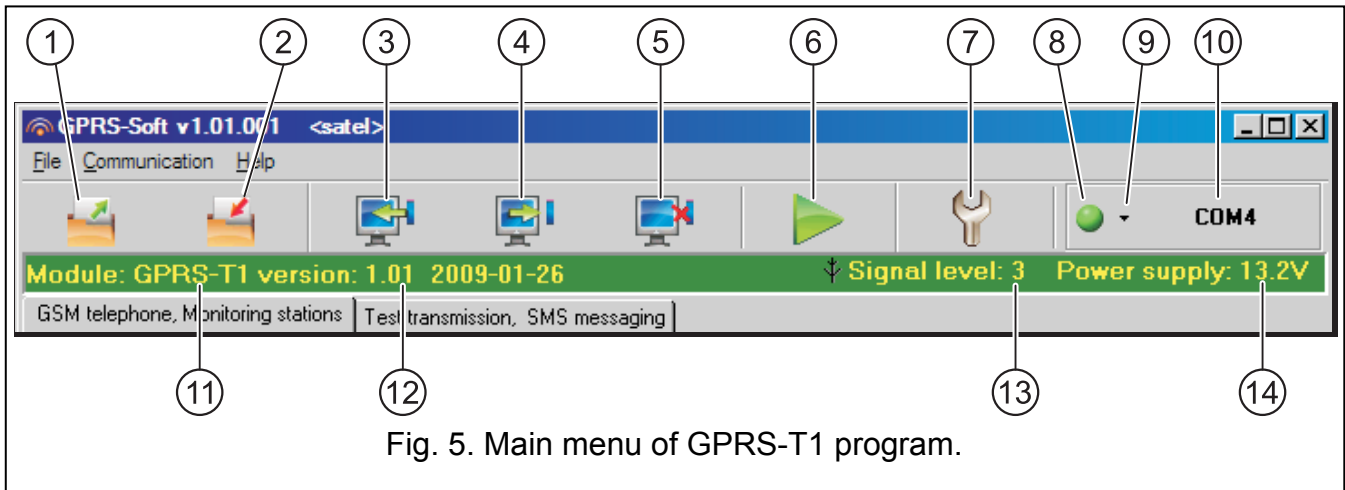

Fig. 5. Main menu of GPRS-T1 program.
The serial COM port of the computer must be connected with the RS-232 (TTL) port on the converter electronics board. The cables for making this connection are available as a set designated DB9FC/RJ-KPL. Indicate in the GPRS-SOFT program the computer COM port to be used for communication with the converter. To do so, click on the "Configuration" button (see: Fig. 5 and explanations for the figure) and, in the window that will open, select one of the available computer COM ports. After activation of the selected COM port, the program will establish communication with the converter.
2. Click on the "Configuration" button (see: Fig. 5 and explanations for the figure) and, in the window that will open, enter the number of TCP port selected for communication with the converter. The number will have to be included in the body of SMS message which will be sent to the converter GSM telephone number to initialize communication .
3. Click on the  button (see Fig. 5). In the menu that will open, select "TCP/IP" to activate the server.
Explanations for Figure 5: